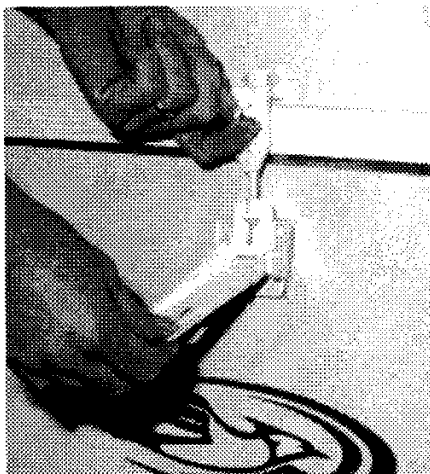

Fig. 1
1. Unlatch all roof latches. Fig. 1